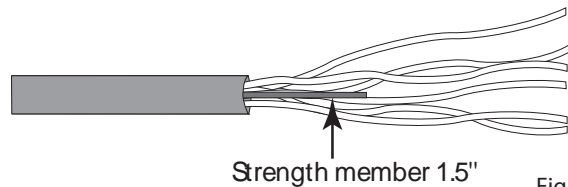

Figure 10
3. Cut the strength member(s) 1.5" from the ring cut. (Fig. 10)